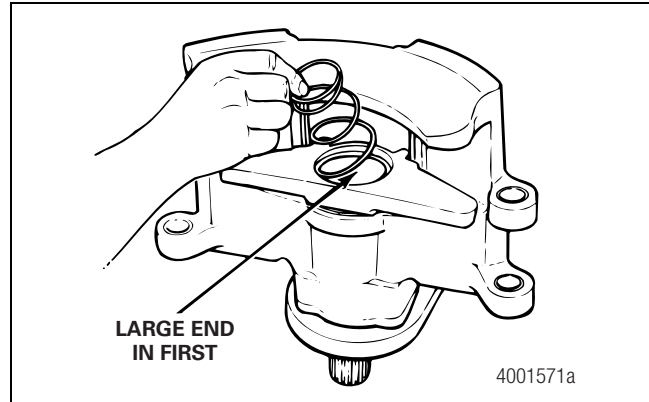

Figure 5.17
10. Install the return spring into the piston by inserting the large end of the spring first. Figure 5.17.